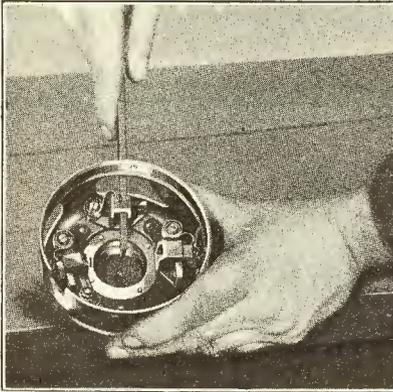

Fig. 515
- 1083** When brushes stick in brush holders it is usually caused by the interior surface of the brush holder being rough or having a burr in it. This can be remedied by lightly filing the holder with a fine file as shown in Fig. 515. If the trouble is due to an oversize brush, it should be dressed down until it fits evenly in holder.